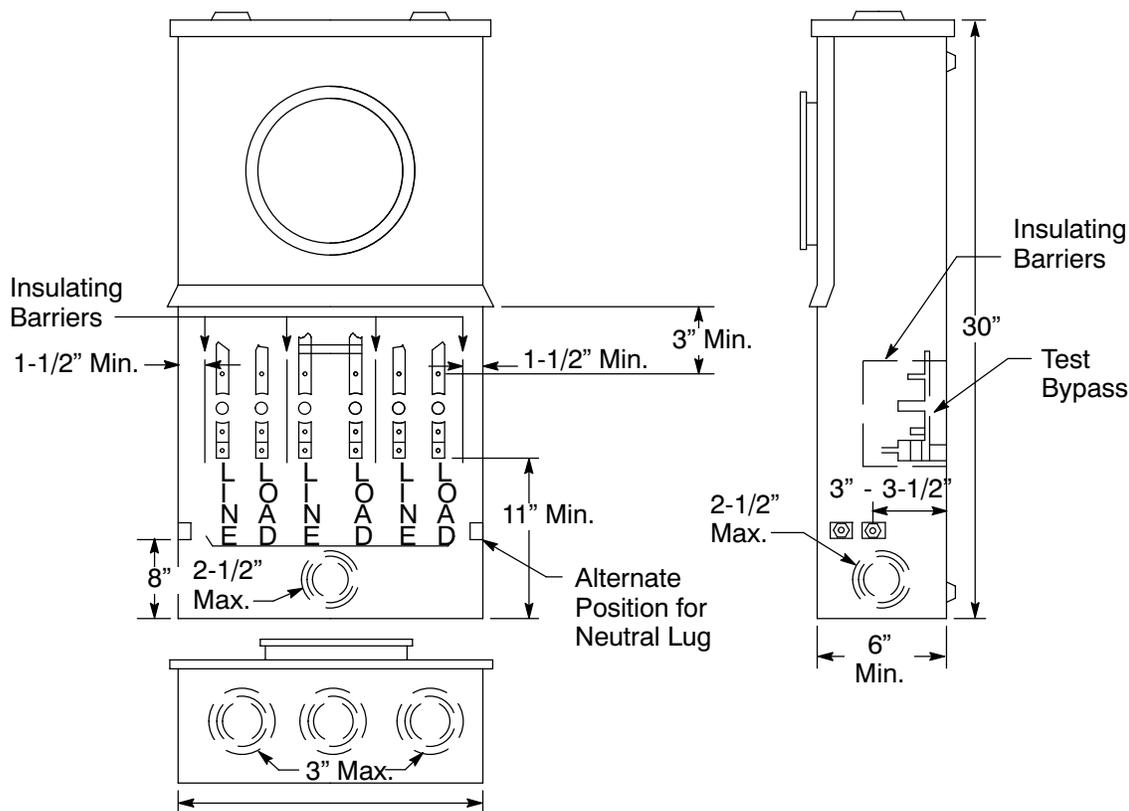

Figure 7-1
- A. Applicants must furnish, install, and maintain a meter socket with PG&E-approved, manual, test-bypass facilities. See Figure 7-1., “Bused, Safety-Socket Meter Box for Self-Contained Metering (0 Through 225 Amperes),” on Page 7-3. This equipment is used for the following types of services.